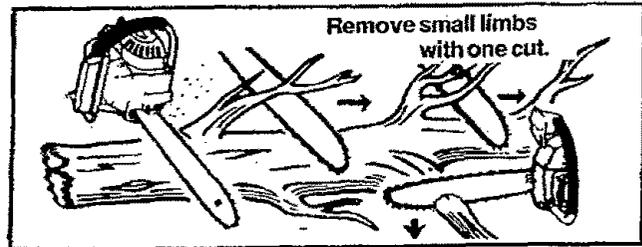

Figure 32
- c. Start at the base of the felled tree and work towards the top, cutting branches and limbs. Remove small limbs with one cut. Figure 32.